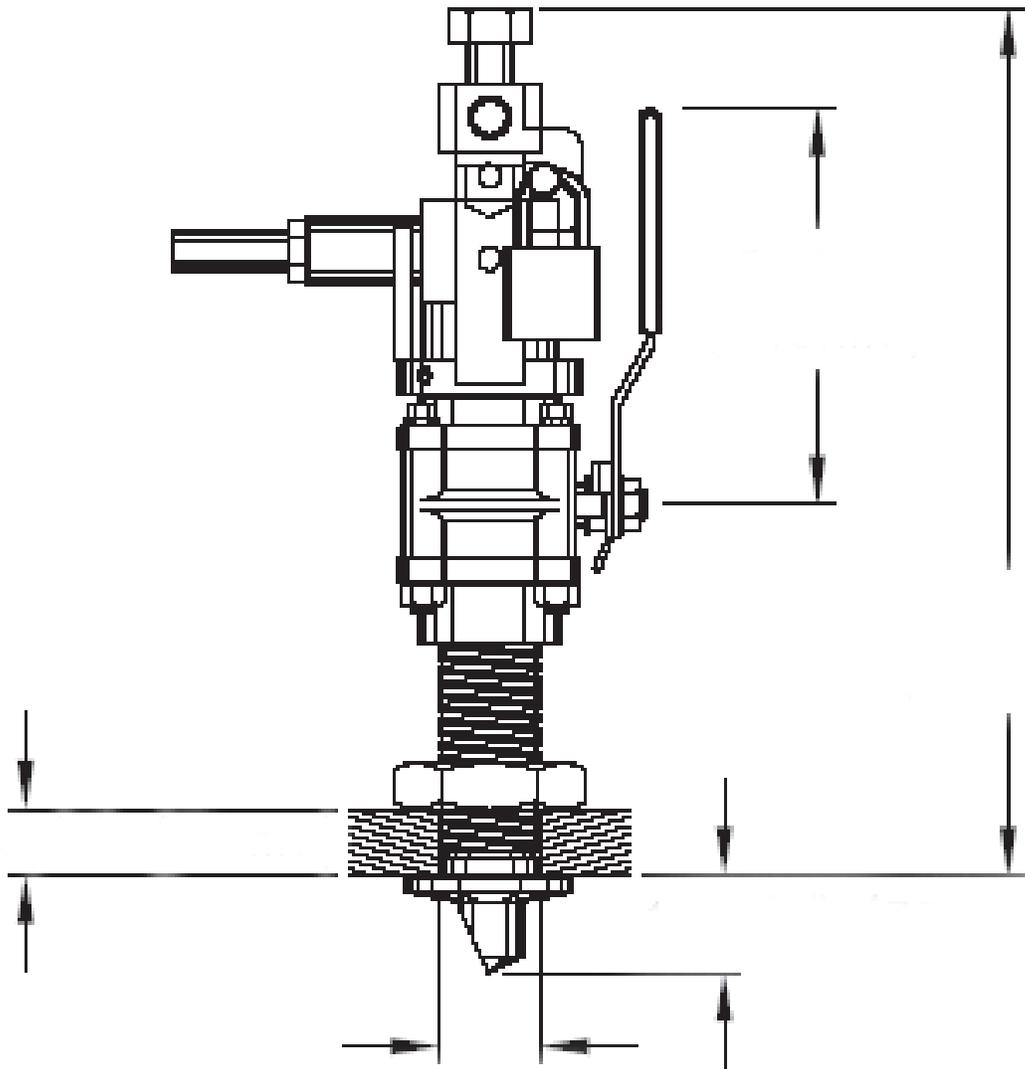

Figure 10-3 7600 Transducer
1. Verify the following three safety conditions are met below. See Figure 10-3 on page B-17.
3. Remove the conduit clamp and gently pull the E-O connector out of the body of the transducer cable connector as shown in Figure 10-3 on page B-17.
Before leaving the transducer, be certain that the locking rod is fully engaged and padlocked and that the E-O connector is installed as shown in Figure 10-3 on page B-17.